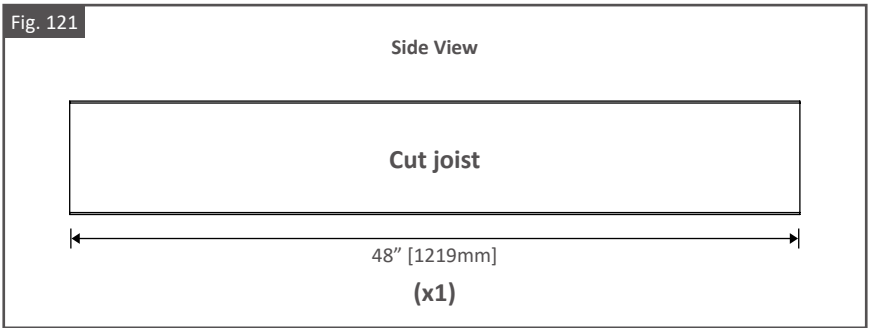

Fig. 122
8. Using Evolution Self-Drilling Screws and two 8" [203mm] Straps, fasten the cut Joist onto the outside face of the U-Rim. Be sure straps are positioned 3" [76mm] from each edge of the cut Joist. As shown in Fig. 122.